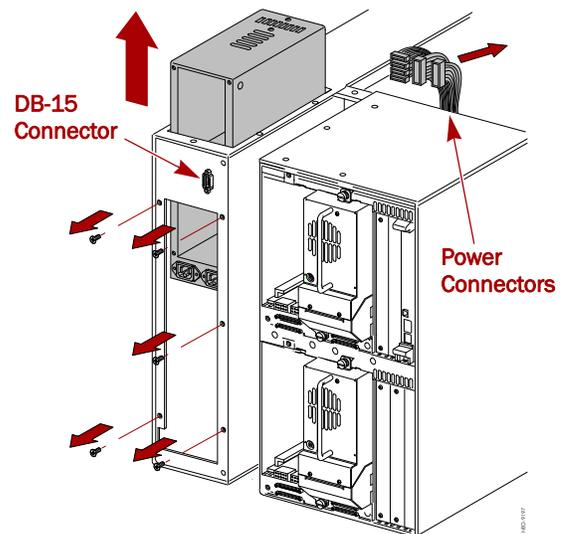

Figure 3. Removing the Old Receiver
6. Carefully remove the **receiver** through the opening in the top of the library (Figure 3).